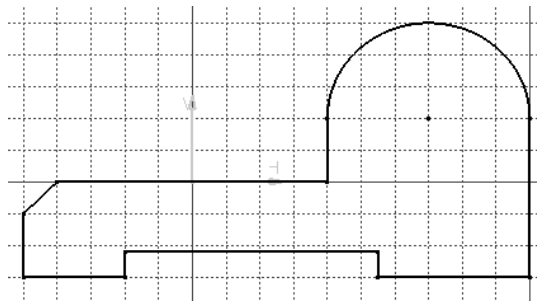

Figure 2-51 The completed outer loop of the sketch
- Draw the sketch of the model using the **Line**, **Arc**, and **Circle** tools, refer to Figures 2-51 and 2-52.
22. Choose the **Fit All In** button from the **View** toolbar to fit the current sketch into the screen. The completed outer loop of the sketch is shown in Figure 2-51. Note that in this figure, the display of constraints and dimensions is turned off using the **Hide/Show** tool for clarity.